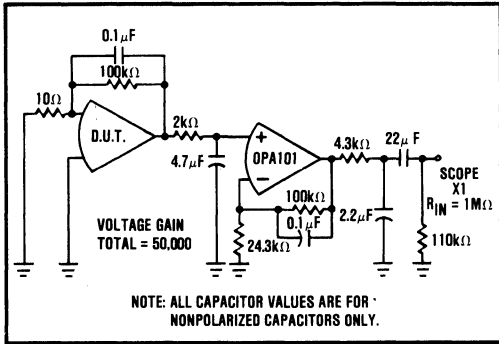

FIGURE 1. 0.1Hz to 10Hz Noise Test Circuit.
- See Figures 1 and 2.
- See Figure 1 for current noise measurement.